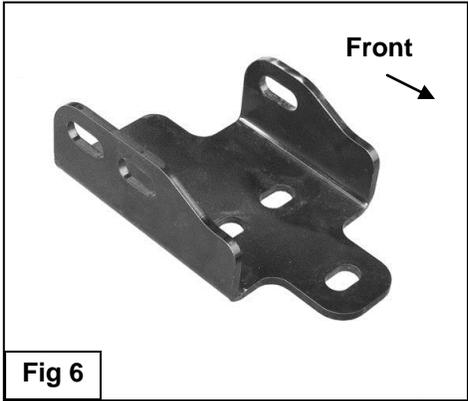

Fig 6
2. Select (1) Frame Bracket, **(Figure 6)**. Insert the Bracket through the opening in the driver side of the plastic bumper, **(Figures 4 & 5)**. Line up the (3) holes in the Bracket with the holes in the end of the frame.